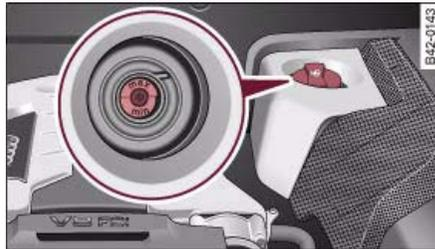

Fig. 120 Engine compartment: Markings on radiator expansion tank
- Read off the coolant level on the inside of the radiator expansion tank ⇒ fig. 120. When the engine is cold it must be above the “min” mark. When the engine is hot it may be slightly above the marked area.